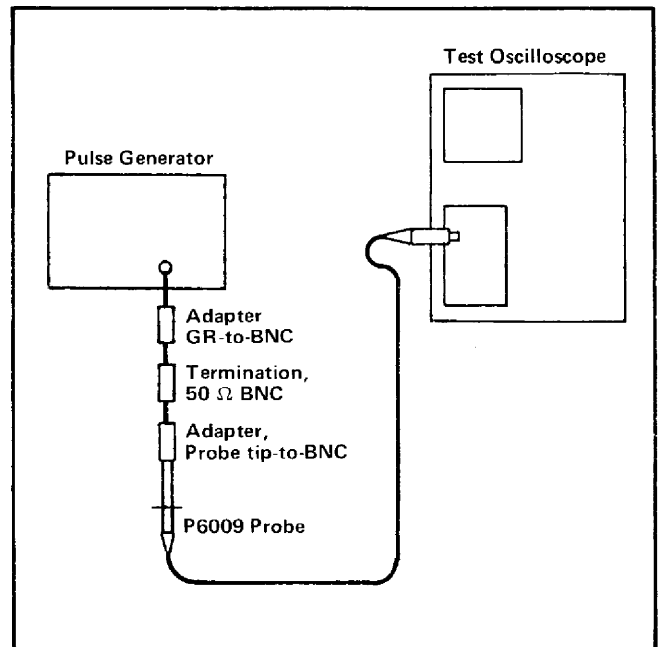

Fig. 5. Equipment connections for checking pulse response of the P6009 Probe.
c. Connect the probe tip to the pulse generator output, using Fig. 5 as a guide.
i. Disconnect the probe from the calibrator output and connect as shown in Fig. 5. Set the oscilloscope Time/Div to 50 ns.